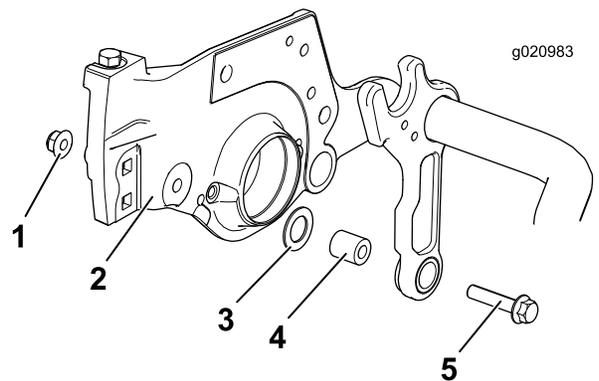

Figure 4
- On each side of the carrier frame, remove the existing bolt, nut, washer, and spacer (Figure 4).